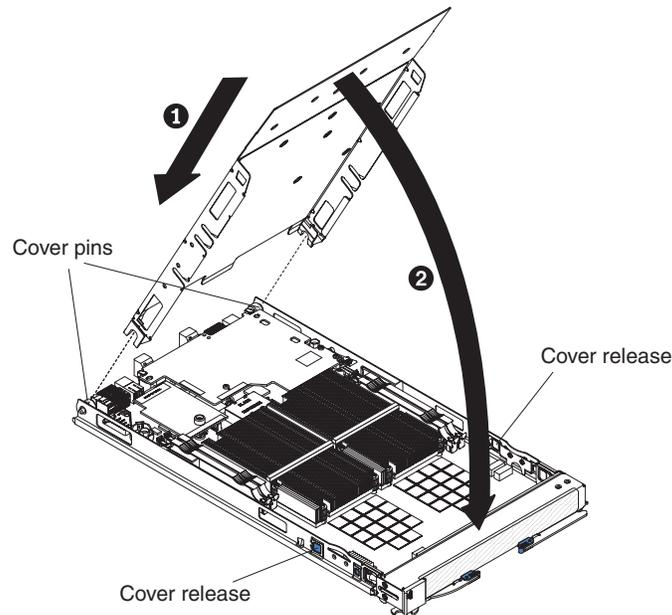

Figure 24. Closing the blade server cover
2. If you removed the front bezel assembly, replace it now. See “Installing the front bezel assembly” on page 47 for instructions, and Figure 24.
3. Lower the cover so that the slots at the rear slide down onto the pins at the rear of the blade server, as shown Figure 24. Before closing the cover, make sure that all components are installed and seated correctly and that you have not left loose tools or parts inside the blade server.
4. Carefully close the cover as shown in Figure 24 until it clicks into place.